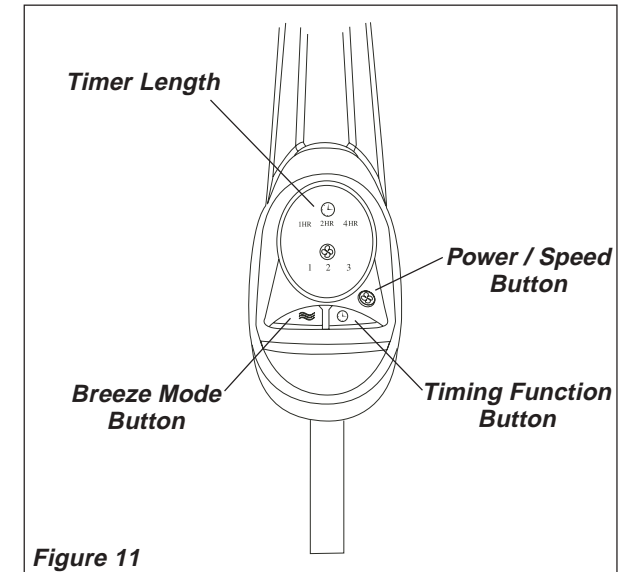
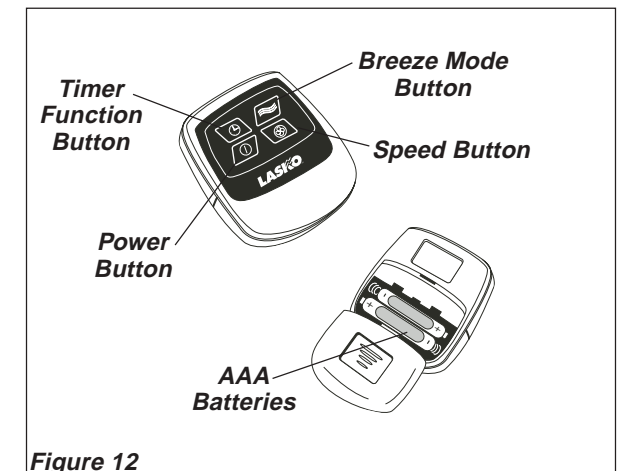
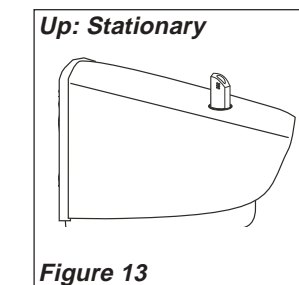

Figure 11
Figure 12
Figure 13
This Fan may be operated by the Manual Controls located on top of the unit (as shown in **Figure 11**) or by the Remote Control (shown in **Figure 12**).
4. Install two AAA batteries supplied as shown in **Figure 12**.
8. **BREEZE MODE:** The Breeze Mode allows the fan to randomly cycle through the speeds. With the fan on, press the **Breeze Mode Button** (≈) on the control area of the fan, or the **Breeze Button** (≈) on the remote control. If the fan speed setting is on Low speed (1), it will cycle from off to low. Medium speed (2) will cycle from off, low and medium. High speed (3) will cycle from off, low, medium and high. The speed indicator light will flash in Breeze Mode. Press the **Breeze Mode Button** (≈) again to turn off the Breeze Mode.
9. **OSCILLATION:** Push down oscillation knob on motor housing to make fan head move from side to side. **(Figures 13 and 14)**